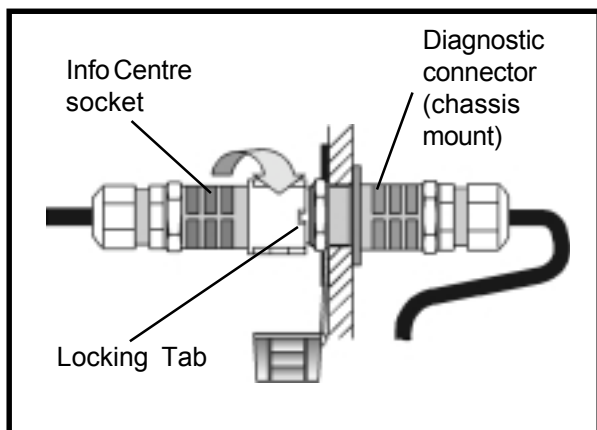

Fig 9.3 CHASSIS CONNECTION
- b: Tighten nut on Info Centre socket and ensure locking tab is located when mated with chassis diagnostic connector. (see Fig 9.3)
2. Connect the DDU cable to the trailer diagnostic output connector. (See Fig 9.3).